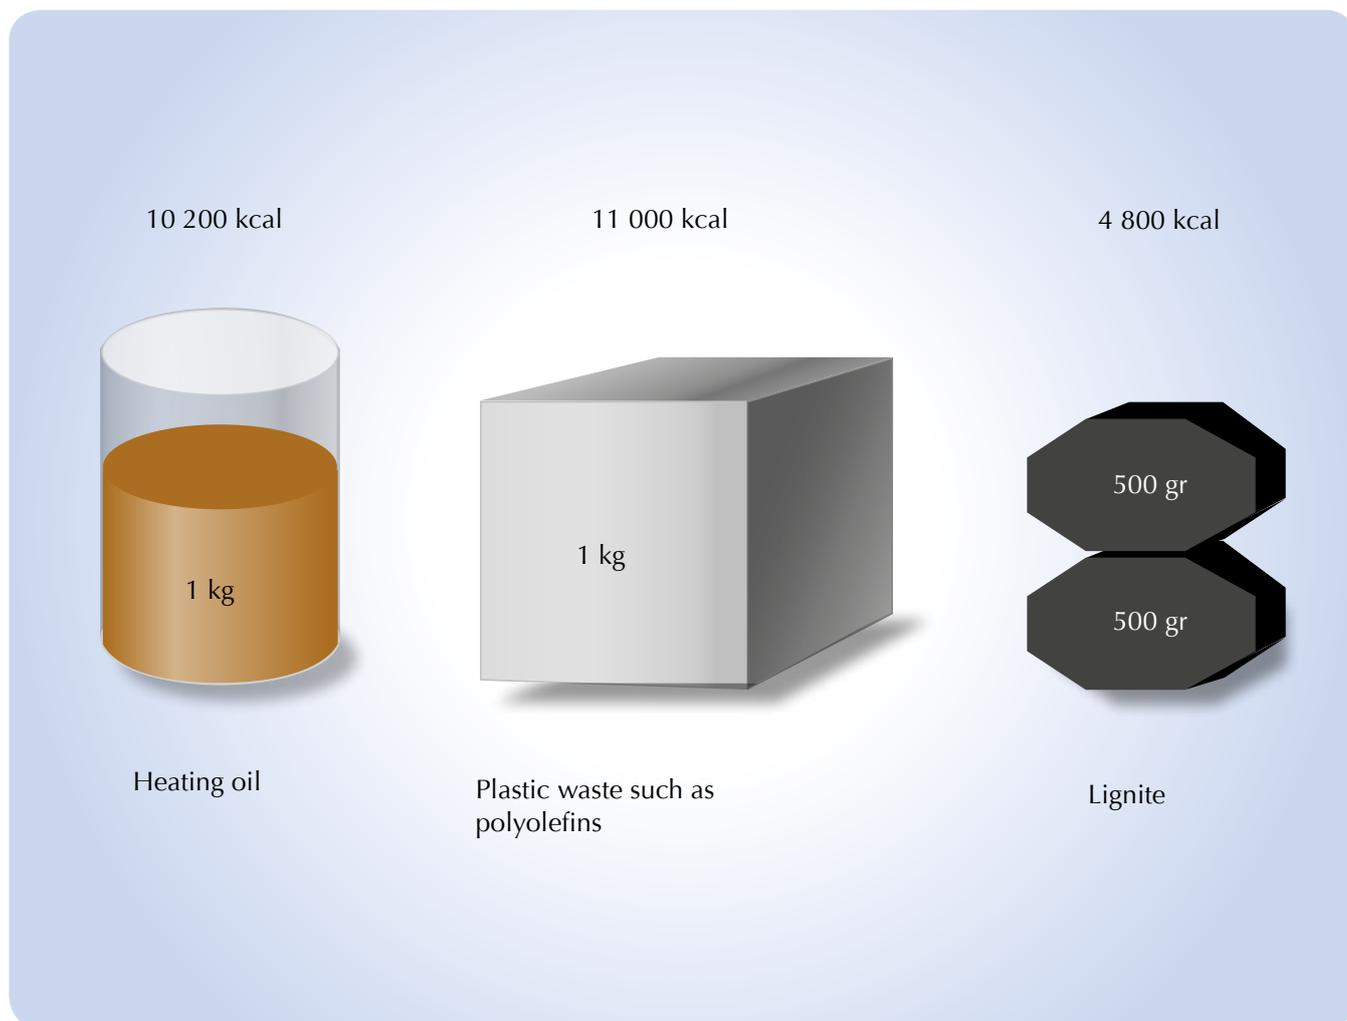

Figure 4: The calorific value of different fuels
3. Shredded plastics can be directly used as fuel, substituting oil and coal, for example in waste-to-energy plants. They can also replace coke used for iron production in furnaces (see Figure 4, below).